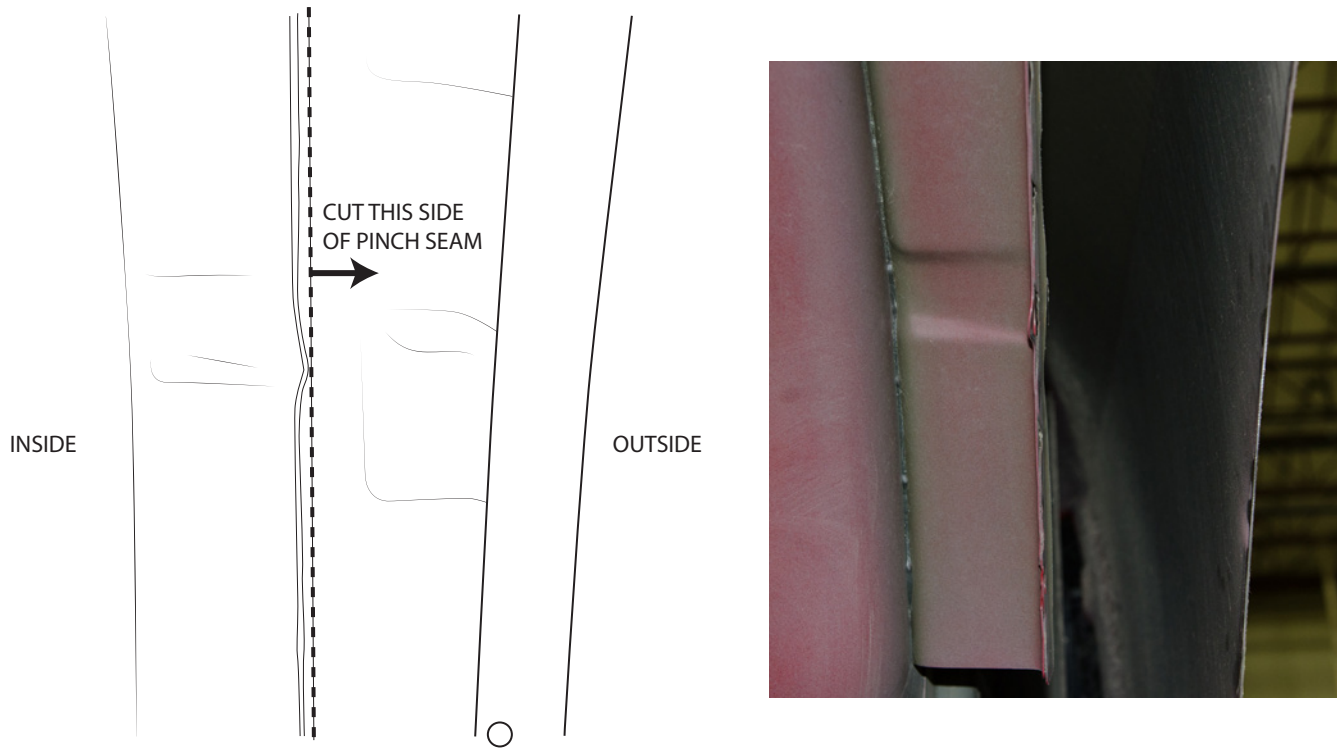

Figure 5 Left: Before Right: After
- A. Start by cutting the bedside support structure. This is the material that connects the inner portion of the bed to the bedside. It is located inside the wheel well at the top of the arc. Be sure to cut to the outside of the pinch weld. DO NOT cut the pinch weld off (fig. 5)